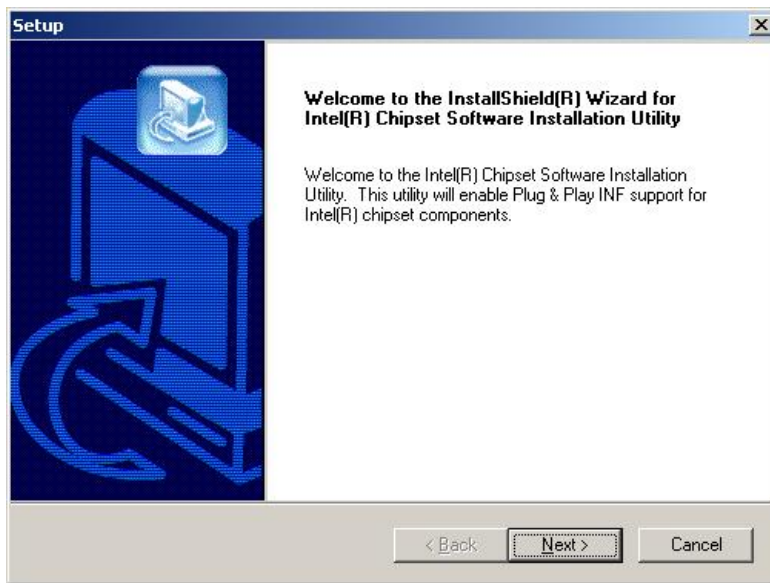

Figure 6-2: Welcome Screen
Step 3: The “Welcome” window in Figure 6-2 appears next.